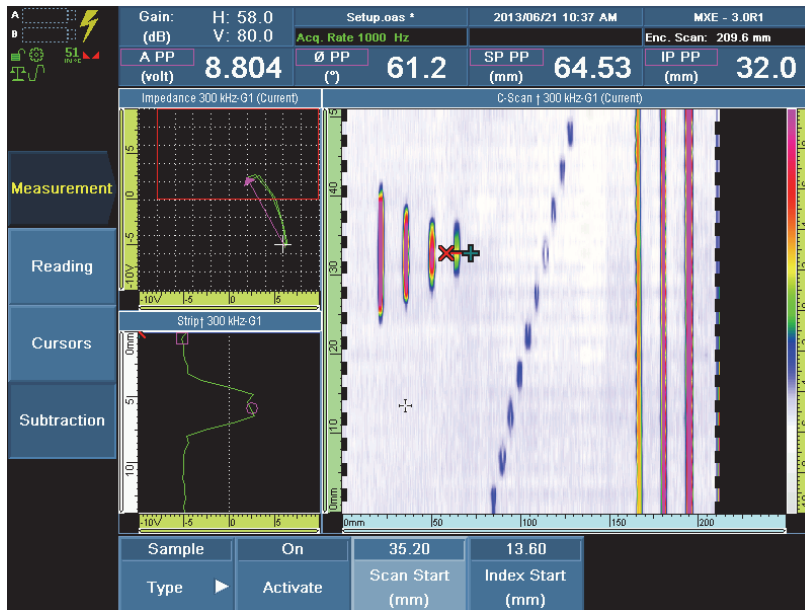

Figure 12-3 Point subtraction cursor
4. Select **Activate = On**, and then press the Accept key to enable the cursor. Selecting **Activate = Off** will disable the cursor. (see Figure 12-3 on page 218)